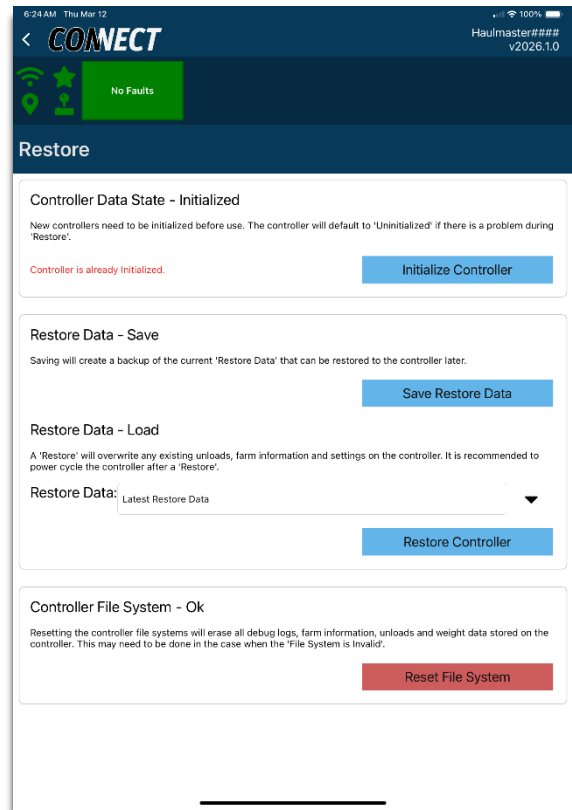

Figure 96 Restore Screen
7. Press the **Controller Uninitialized** button, then press **Take me there**, and it will take you to the **Restore** screen, Figure 96.